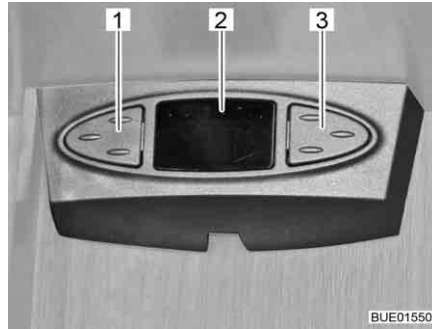

Fig. 38 Satellite mouse
Depending on the model, the satellite receiver is equipped with a satellite mouse. The satellite mouse's display (Fig. 38,2) shows the current channel. The two buttons can be used to operate the basic functions of the satellite unit (changing channel, switching on/off).
- Choosing the previous channel from the list: Press left button (Fig. 38,1).
- Choosing the next channel from the list: Press right button (Fig. 38,3).
- Switching between radio and TV: Press the buttons (Fig. 38,1 and Fig. 38,3) briefly at the same time.
- Switching the receiver on/off: Press and hold the buttons (Fig. 38,1 and Fig. 38,3) at the same time.